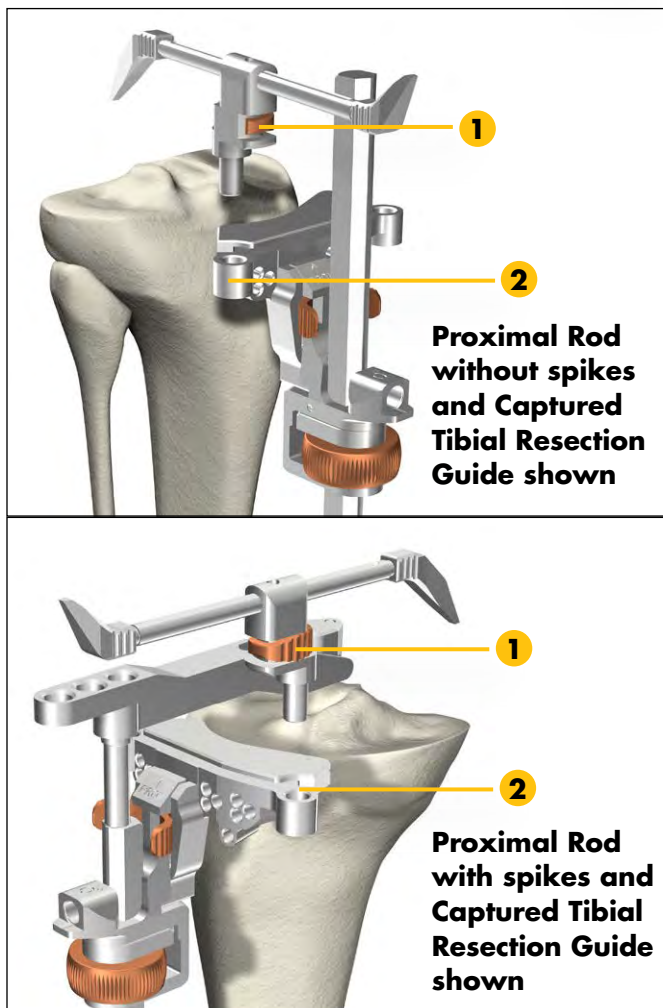

Figure 14
Squeeze the bronze lever (1) of the Tibial Stylus and fully insert the post into either the medial or lateral hole (2) of the Tibial Resection Guide as shown in **Figure 14**.